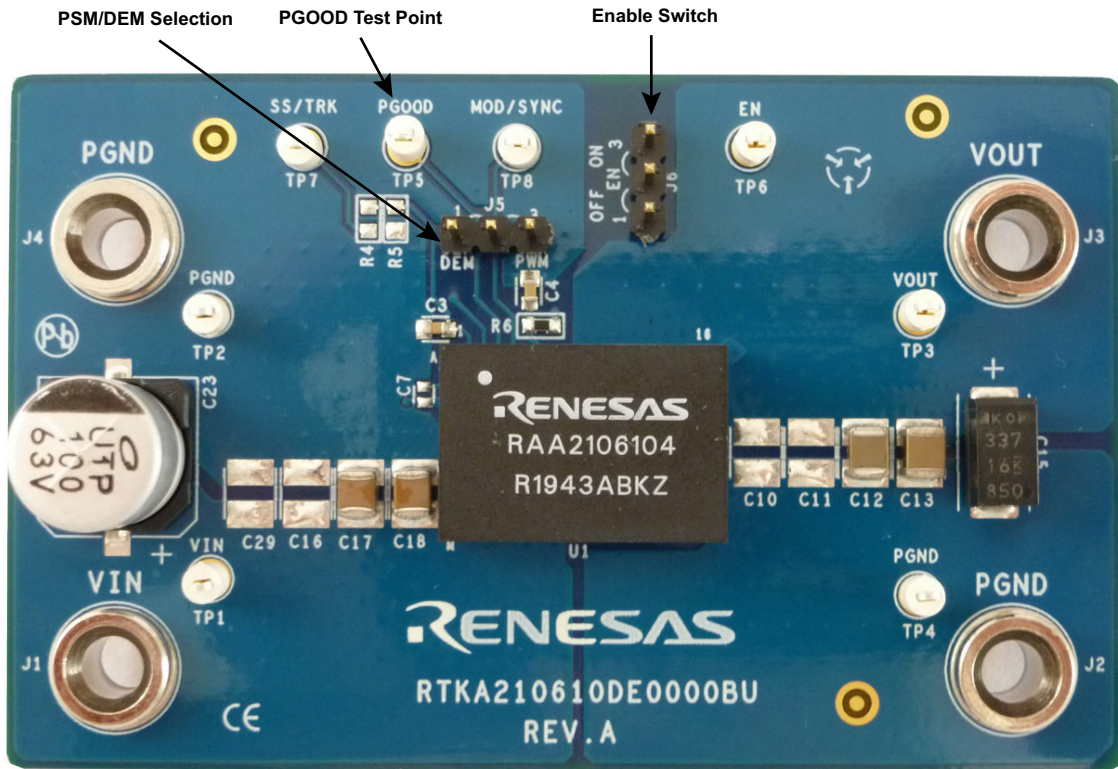
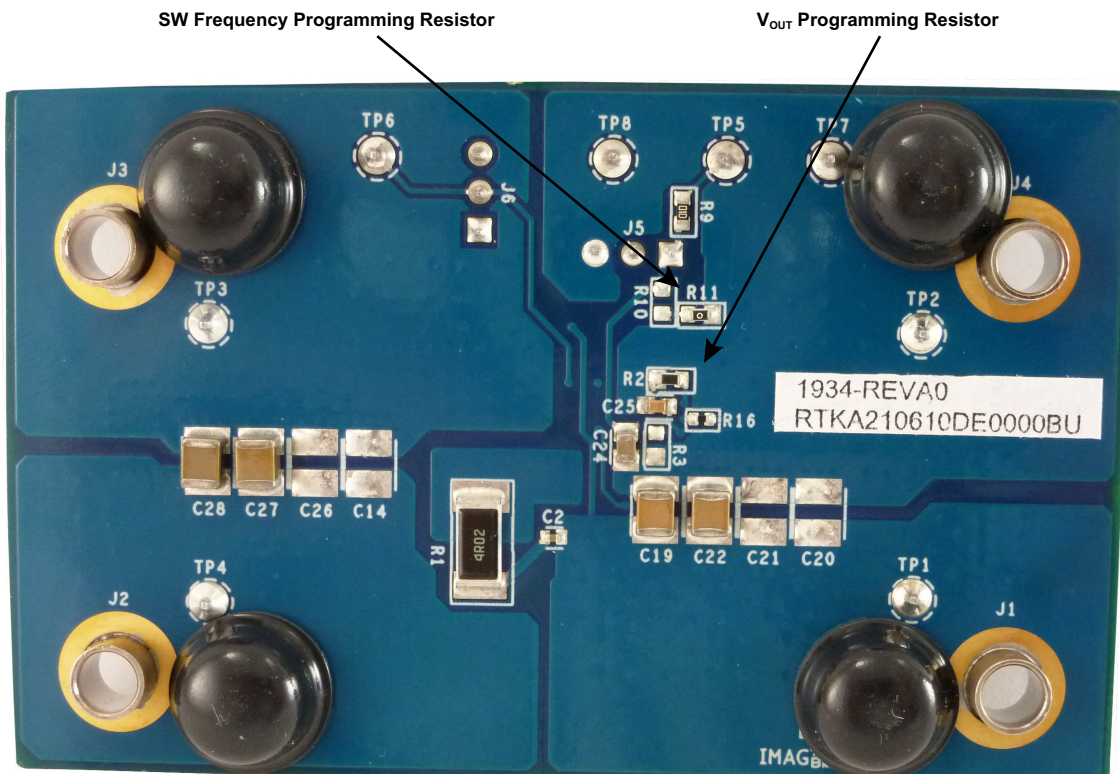

Figure 2. Top of Board
Figure 3. Bottom of Board
The RTKA210610DE0000BU provides the peripheral circuitry to evaluate the feature set of the RAA210610. The evaluation board includes several connectors, test points, and jumpers that simplify the validation of the module. The converter is enabled and disabled by moving the jumper across the EN pin as shown in Figure 2 on page 5. Connecting a jumper across the MOD/SYNC pin and VCC (as shown in Figure 2) enables the PSM/DEM mode of operation, which can lead to higher efficiencies at light loads. Resistors R4 and R5 are used to evaluate the tracking functionality. Selecting features like external frequency synchronization is performed by connecting the signal generator (square pulse waveform clock signal) to the MOD/SYNC pin. The output voltage (0.6V - 12V) and the switching frequency (300kHz to 2MHz) are programmed by changing the resistors as shown in Figure 3 on page 5.
1. Disable the module by moving the jumper across the EN pin as shown in Figure 2 on page 5.